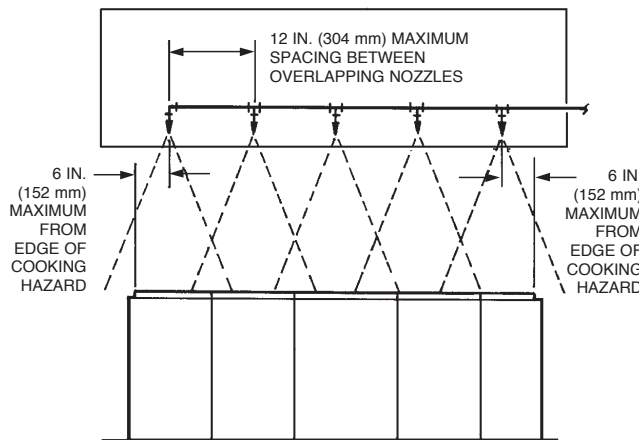
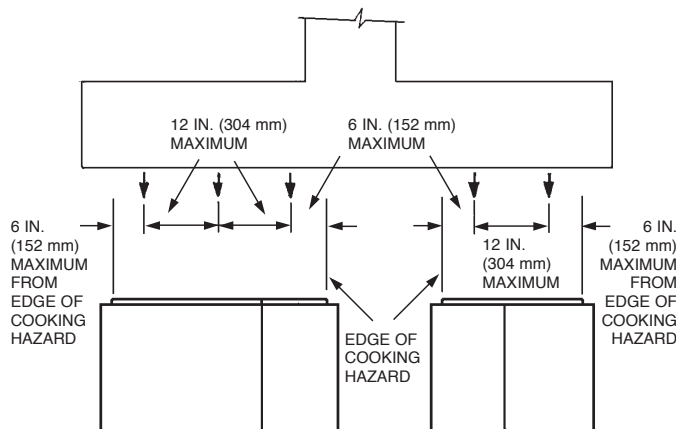

FIGURE 4-134
FIGURE 4-135
See Figure 4-134 (full hood continuous protection) and Figure 4-135 (multiple group protection).
1. For each group of protected appliances under common hoods, the overlapping nozzles must be located from right to left so that each end nozzle is located a maximum of 6 in. (152 mm) inside the outside edge of the cooking hazard of each end appliance, and the inside overlapping nozzles must be located between the two end nozzles at a maximum spacing of 12 in. (304 mm). See Figure 4-134 and Figure 4-135.